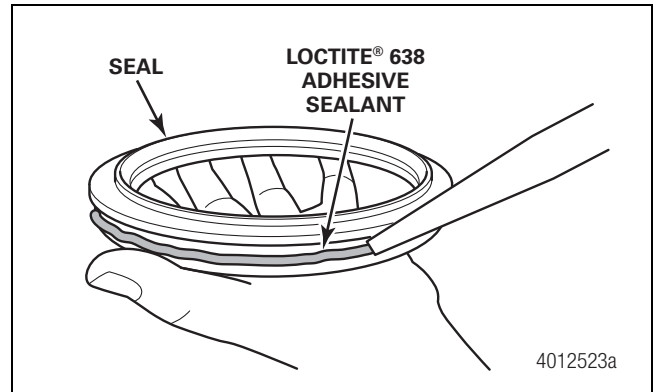

Figure 13.1
5. Prior to installing the new hub seal, apply a bead of Loctite® 638 adhesive sealant around the outside diameter of the seal as shown. Use Loctite® 680 adhesive sealant if Loctite® 638 is unavailable. Figure 13.1.